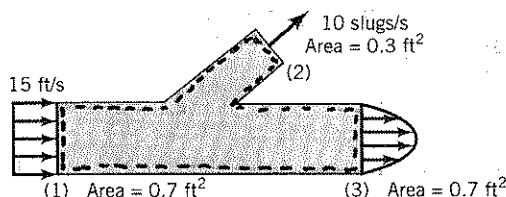

FIGURE P5.3
**5.3** Water flows steadily through the horizontal piping system shown in Fig. P5.3. The velocity is uniform at section (1), the mass flowrate is 10 slugs/s at section (2), and the velocity is nonuniform at section (3). (a) Determine the value of the quantity  $\frac{D}{Dt} \int_{\text{sys}} \rho dV$ , where the system is the water contained